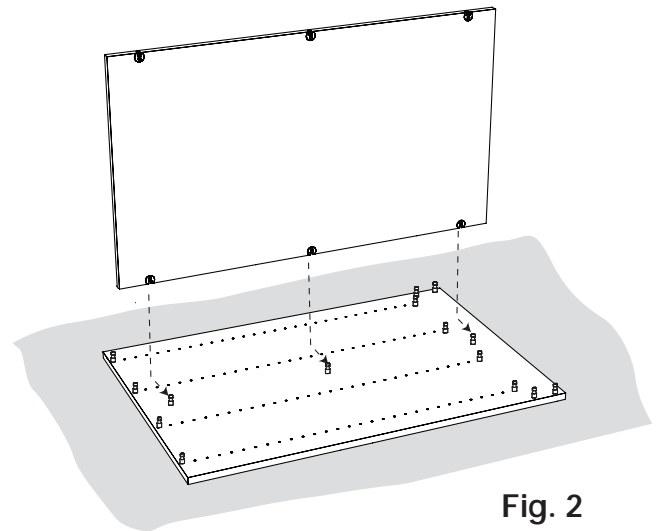
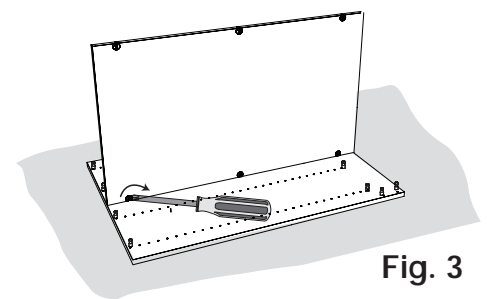

Fig. 2
Fig. 3
2. Place divider on side panel (along center screw-in studs) and push cam locks over screw-in studs. (See Fig. 2.) Use a Phillips screwdriver to tighten all cam locks at stud location. (See Fig. 3.)